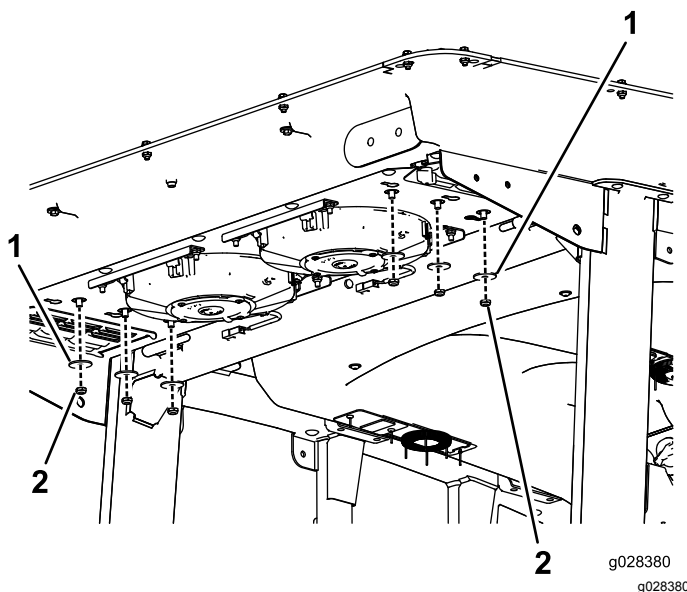

Figure 114
2. Remove the 6 nuts and washers from the bottom of the rear of the cab (Figure 114).